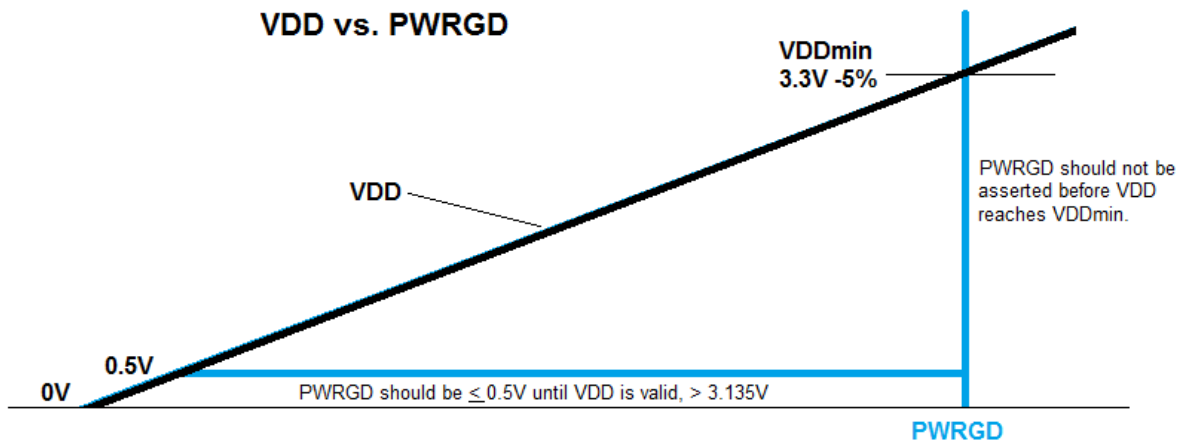

Figure 5. PWRGD and VDD Relationship Diagram
4. Once the VDD pin has reached a valid VDDmin level (3.3V –5%), the PWRGD/PWRDN# pin must be asserted High. See Figure 5.